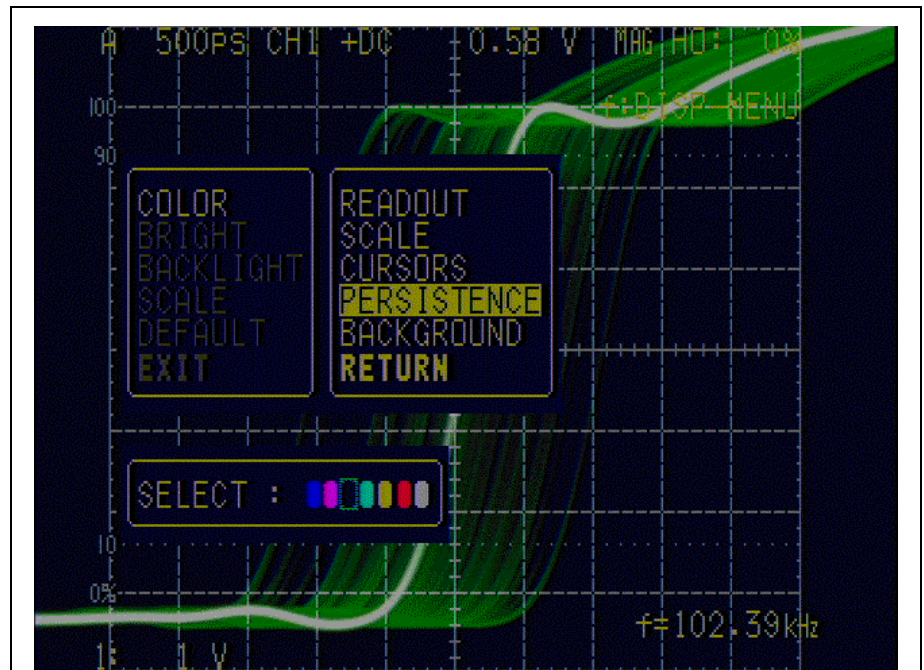

Figure 2: Color Menu
- 4) Depress and hold FUNCTION knob until menu box appears on left side of screen (see figure 2)